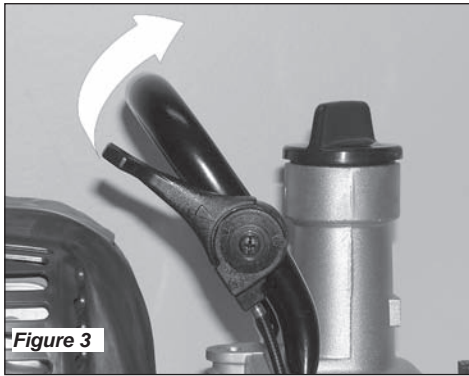

Figure 3
1. Set throttle control lever to the half open position. See Figure 3.